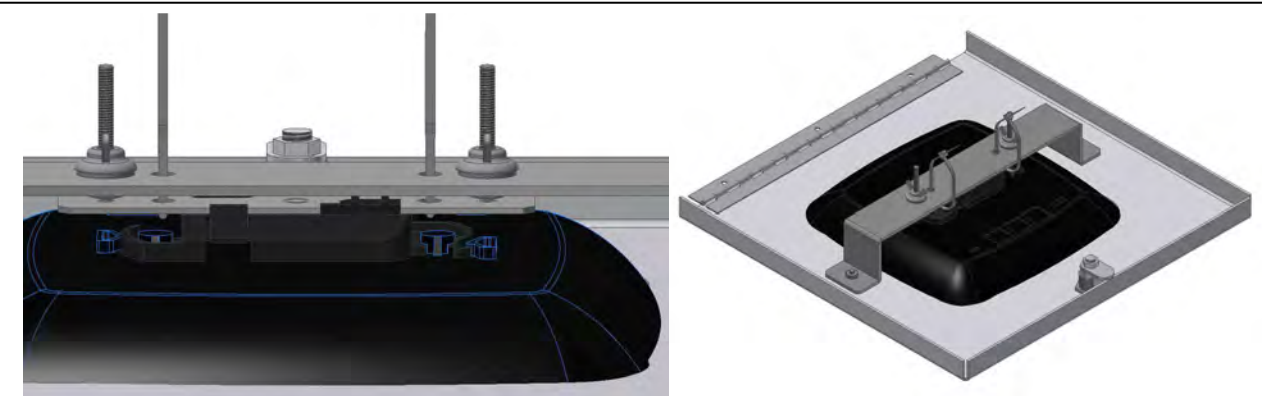

Figure 4
**Step 6** – Use minimum 12-gauge support wire (included) to support the *access point enclosure* independently of the ceiling grid. Attach one end of the wire to the support wire tabs located along the edge of the back box and the other end to a permanent supporting structure within the ceiling such as a ceiling joist (Figure 4).